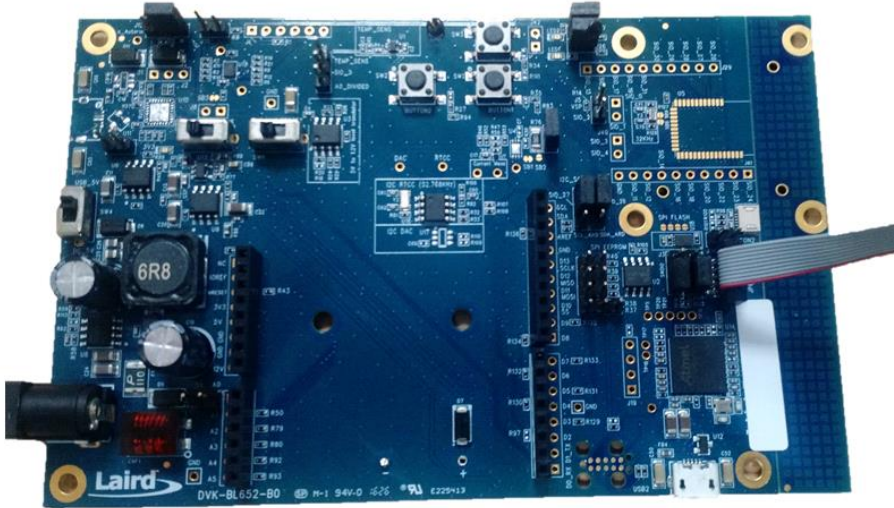

Figure 5: QPK-NRF5X programming board
1. Configure the QPK-NRF5X (the programmer board) as shown in Figure 5.